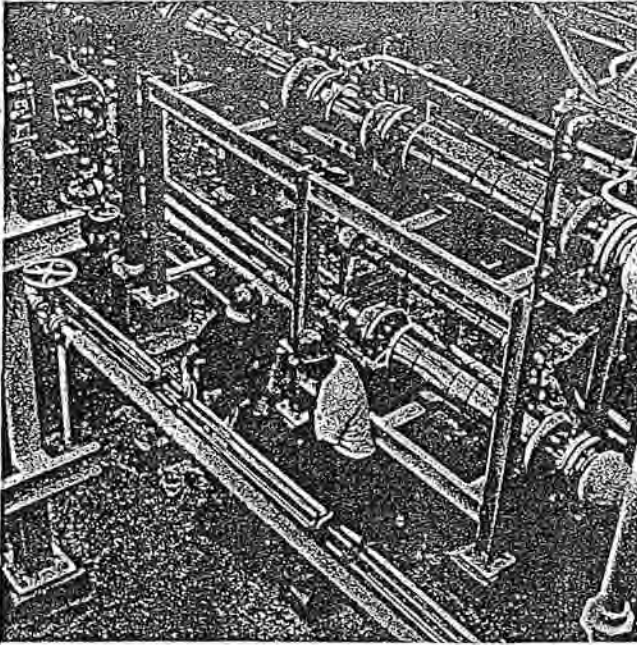

Fig. 1-3. Routine inspection of a section of a specialized piping application.
1.35 Routine preventive maintenance would have detected the problem long before it reached the stage it did. Figure 1-3 shows a two-man team checking a section of piping and tubing. Such inspections at suitable intervals are one of the best means of preventing trouble before it occurs. If you look closely at the illustration, you will note a wide variety of pipes, valves, and fittings. All of them are necessary parts of the total system that, in this case, is in a plant converting salt water into fresh water. Because of salt water's corrosive effects, much of the piping and tubing that you see in the picture is made of stainless steel.